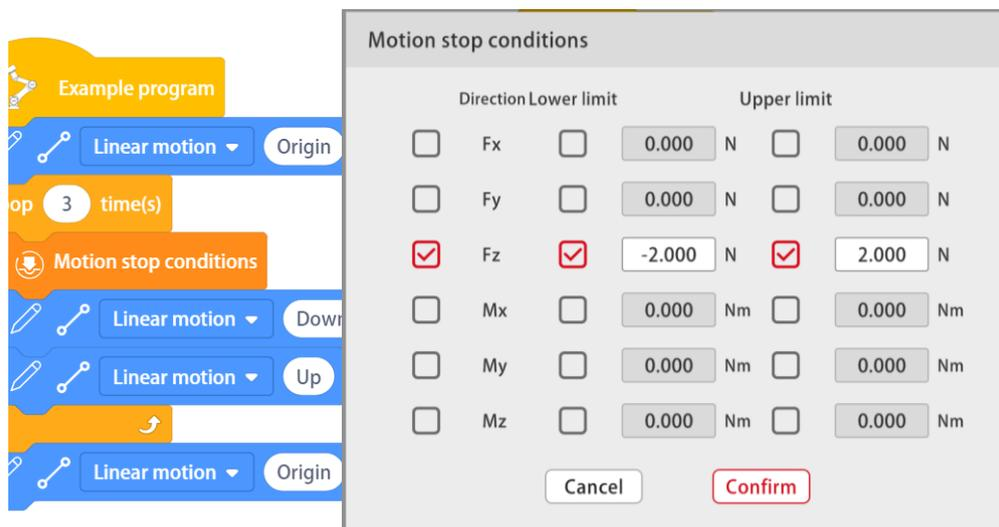

Figure 3-14 Motion Stop Conditions Programming of JAKA Zu Se
- b. Write a program using the [motion stop conditions] instruction block as shown in Figure 3-14. The scene for the example program in Figure 3-14 is that a robot reciprocates in the z direction, detects the force during the descent, and immediately rises if the detected value exceeds the threshold.